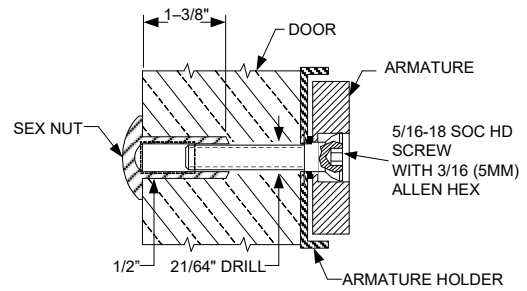

Figure 2A – SOLID DOOR
STEP 1. Mount armature to door. (See figures 2A, 2B & 2C.)
Drill exactly 3/8" through the door. From sexnut side of door, drill 1/2" diameter hole 1-3/8" deep. Mount armature to door with hardware provided per Figure 2A.